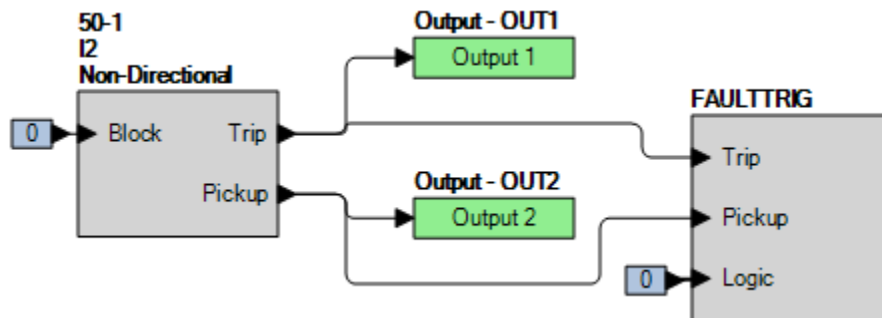

Figure 63-3. BESTlogicPi+ Settings (I2 Mode)
Step 2: Use BESTCOMSPi+ to configure the BESTlogicPi+ programmable logic shown in Figure 63-3.
Step 4: Prepare to monitor the 50-1 function operation. Operation can be verified by monitoring OUT2 (see Figure 63-3).